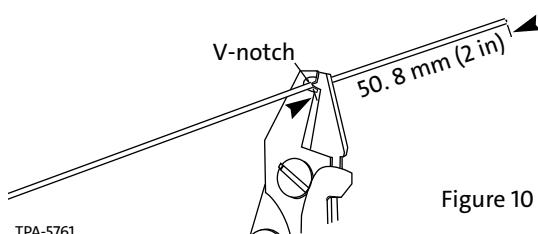

Figure 10
**Step 6:** Determine the 250 µm coating strip length for your application. Separate the fibers and select one to strip, using a fiber optic stripping tool as described in the tool's instructions (SRP-005-006) (Figure 10).